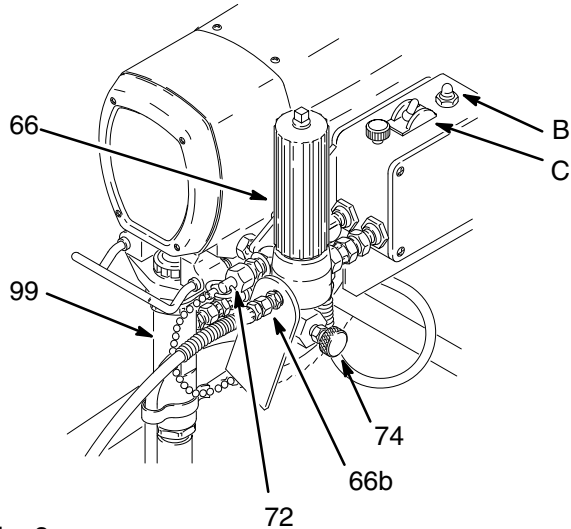

Fig. 3 01217A
**NOTE:** See Fig. 3 except where noted.